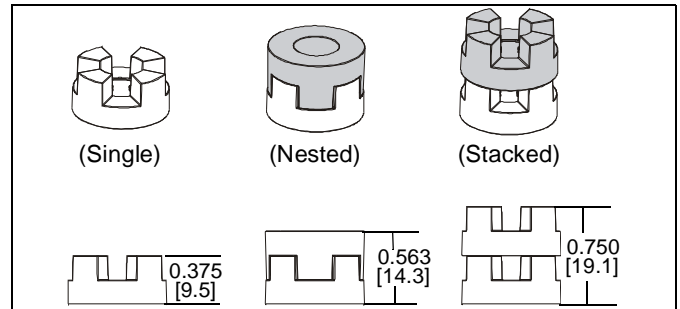

Figure 5
NOTE: The nesting spacers (TM) may be used separately, or put two together in different configurations to create different size spacers. (See Figure 5)